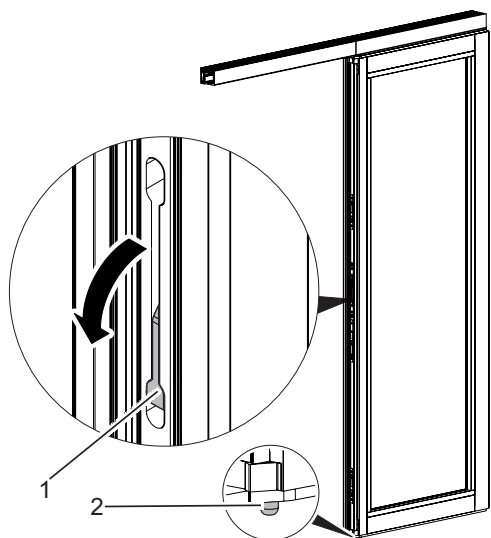

Fig. 7: Operating the door lock bar
2. Move the flush bolt on the side of the sliding panel downward (Fig. 7/1).
- ▶ The locking bolt (Fig. 7/2) will be pressed down into the eccentric bushing.